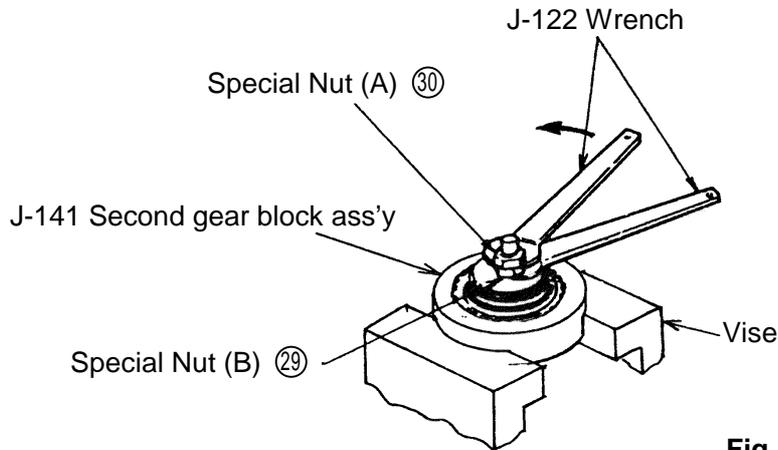

Fig. 9
To disassemble the slip mechanism, fix the second gear block assembly (J-141) in the vise. As shown in Fig. 9, put the second gear (24) into the second gear block assembly. Loosen the special nuts (A) (30) and (B) (29) with the wrench (J-122). Then, all the parts come off.